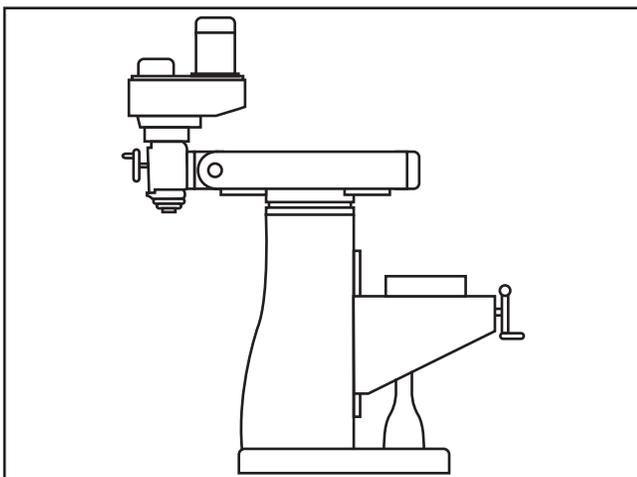

Figure 5. Correct ram and head position before lifting.
1. Position ram and headstock as illustrated in **Figure 5** (refer to **Head Movement** on **Page 32** and **Ram Movement** on **Page 33** for detailed instructions).